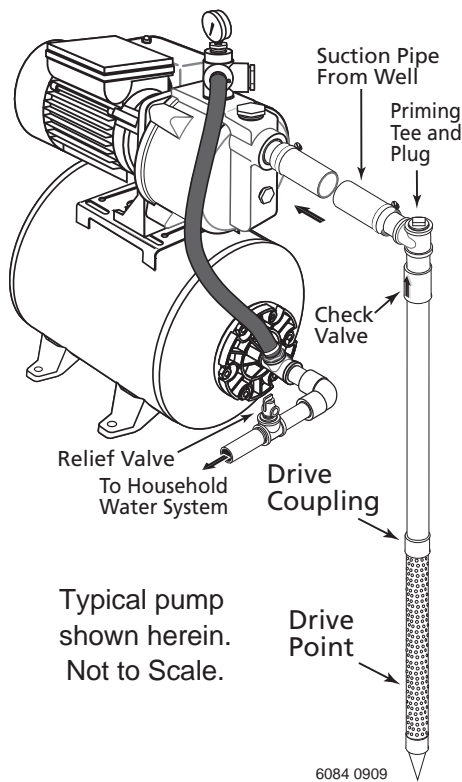
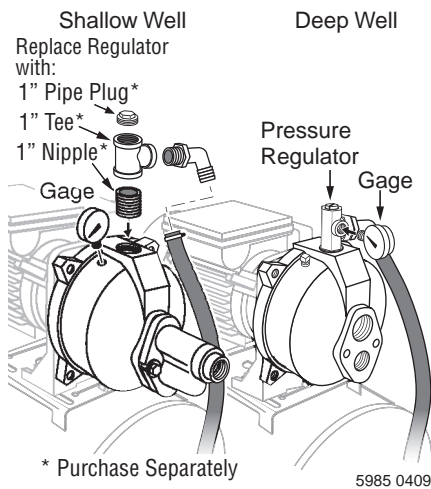

Figure 1: Driven Point Installation
Figure 4: Install Pressure Regulator and Gauge for deep well. Install Priming Tee and Gauge for shallow well.
Well Point (Driven Point) Installation (Figure 1)
- Step 3. Use the fewest possible fittings (especially elbows) when connecting the pipe from the well point to the pump suction port. The suction pipe should be at least as large as the suction port on the pump (include a check valve if your pump is not equipped with one – see Figure 1). Support the pipe so that there are no dips or sags in the pipe, so it doesn’t strain the pump body, and so that it slopes slightly upward from the well to the pump (high spots can cause air pockets which can air lock the pump). Seal the threaded pipe joints with Teflon™ tape or Teflon™ based pipe joint compound approved for use on PVC. Joints must be air- and water-tight. *If the suction pipe can suck air, the pump cannot pull water from the well.* If one well point does not supply enough water, consider connecting two or three well points to one suction pipe.
- Step 2. Install the pressure regulator and pressure gauge in the pump body (see Figure 4).
- Step 2. Remove the pressure regulator from the pump body. Replace it with a 1" NPT close nipple, a 1"x1"x3/4" NPT Tee, and a 1" NPT pipe plug (see Figure 4). Install the pressure gage in the plugged hole in the pump body (see Figure 4).
- Step 1. Remove the control valve from the pump body. Replace it with a 1" NPT close nipple, a 1"x1"x3/4" NPT Tee, and a 1" NPT pipe plug (see Figure 1). Install the pressure gage in the plugged hole in the pump body (see Figure 4).
- Step 1. Install the pressure regulator and pressure gauge in the pump body. See Figure 4, Page 6.